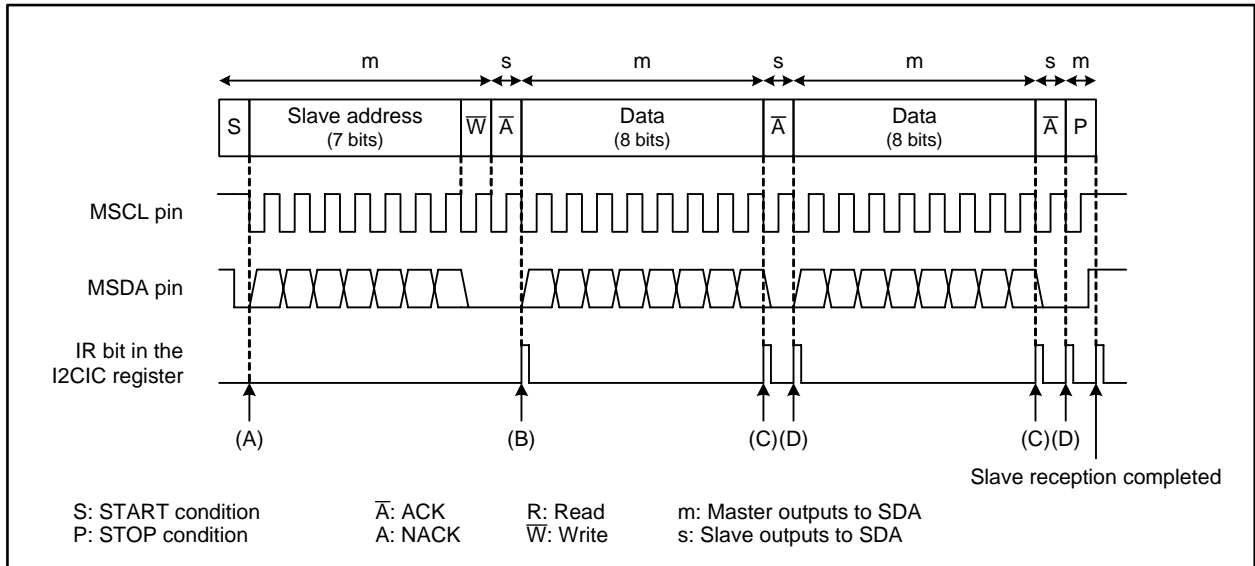

Figure 24.24 Example Operation of Slave Reception
The operation and procedures of slave reception are described in this section. Figure 24.24 shows an example of slave reception operation. For (A) to (D) in the figure, see A to D in the descriptions and procedures below. (1) to (3) show the program's instructions. Arrows indicate that the procedure is performed by the MCU automatically.